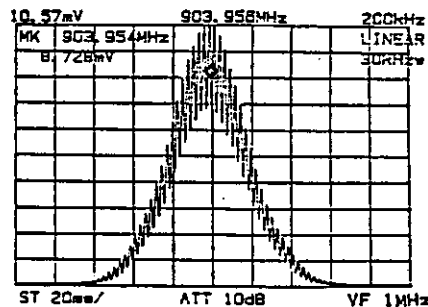

Figure 5-4 Setting the Ordinates Axis Scale to LINEAR
- ⑥ Press the **SHIFT** ,  key and set the ordinates axis scale to LINEAR (Figure 5-4).